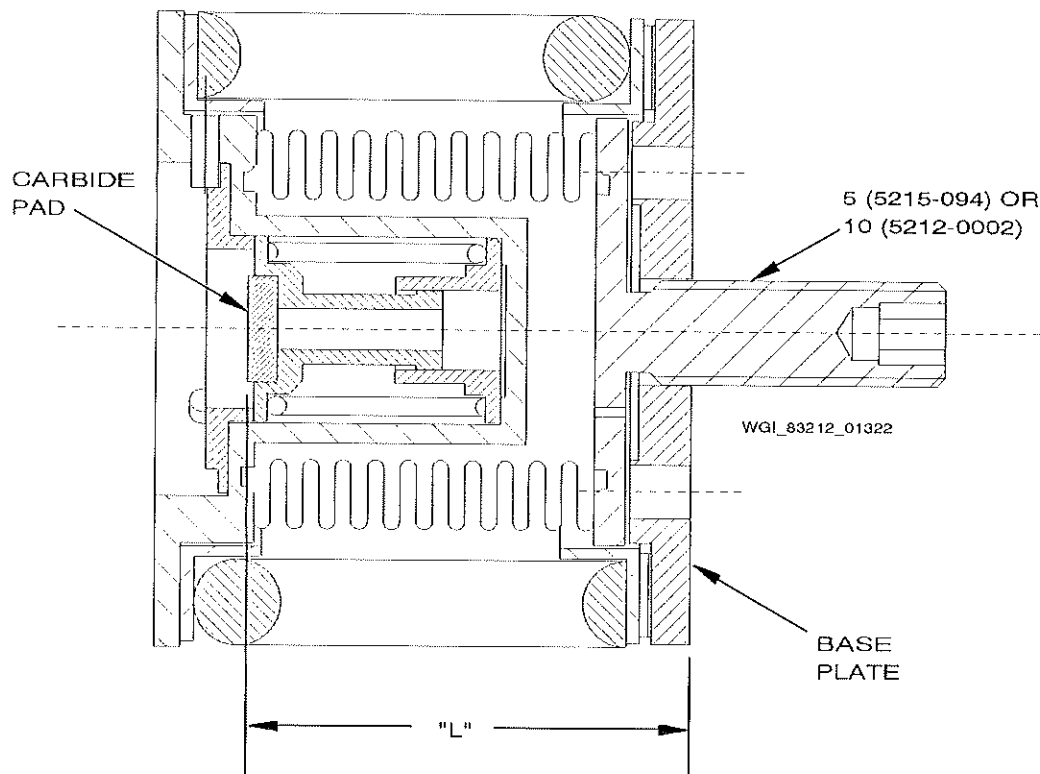

Figure 3 - CDP Bellows Assembly Check
- (1) Measure bellows assembly (5 or 10, Figure 3) length "L" from surface of base plate to top of carbide pad (see Figure 3). Compare measured length "L" to dimension "L" marked on the bellows assembly (5 or 10) end. If dimensions are different by more than 0.003 inch (0,08 mm), replace the bellows assembly (5 or 10). Bellows assembly (5) manufactured prior to January 1993 are not marked with an "L" dimension. Due to the age of these unmarked parts in addition to the lack of a length reference, these bellows assemblies (5) shall be replaced.